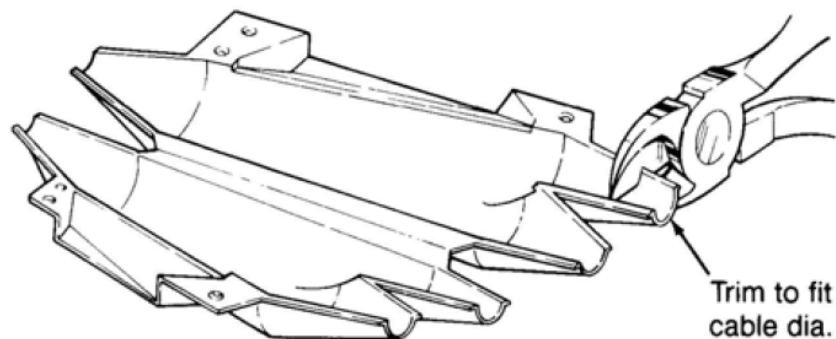

Figure 4
1. Trim tapered ends of mold with knife or diagonal cutting pliers to fit cable diameters. (Figure 4)